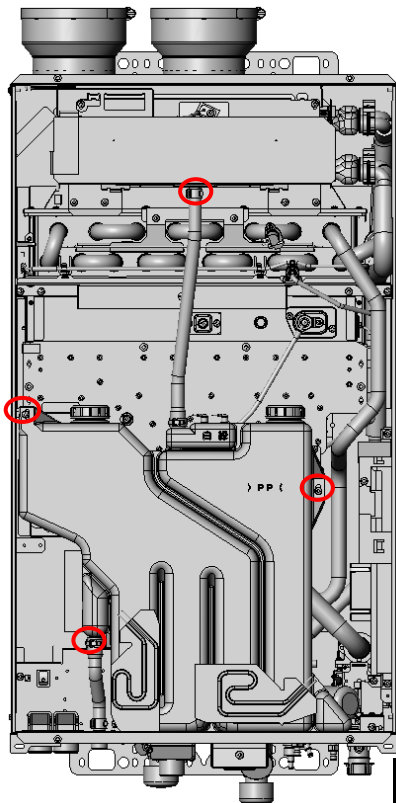
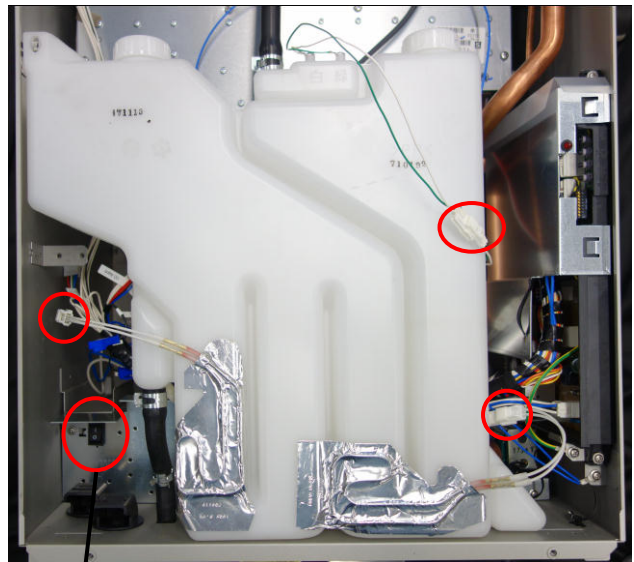

FIGURE 1
FIGURE 2
- 2) Turn the Power Switch OFF in the unit. (FIGURE2)
- 5) Remove the Condensate Container (SET) of the unit by removing 2 screws, 2 clamps (FIGURE 1) and unplug 3 connectors. (FIGURE 2)
- 2) Turn the Power Switch ON in the unit. (FIGURE2)